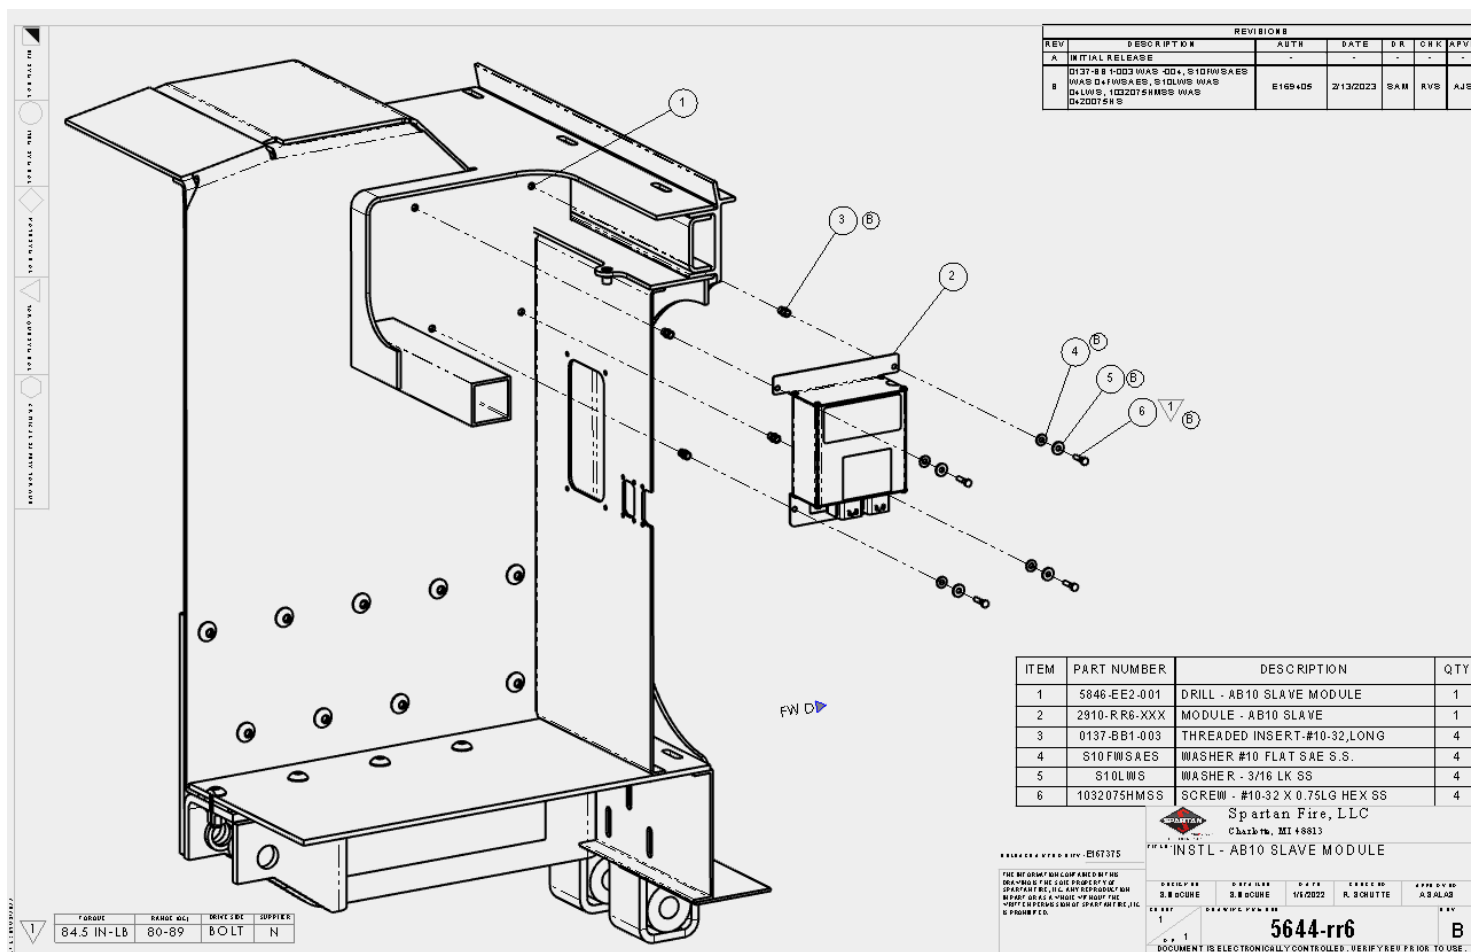

Figure 5.1
- 7) Install new slave module using the fasteners removed in step 5. See Figure 5.1